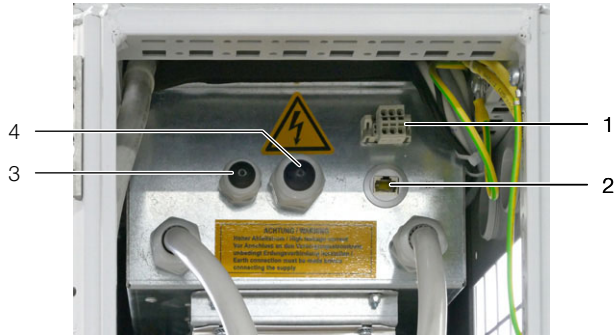

Fig. 24: Electronics box – rear
Inside the device, the cable is routed into the electronics box via the large cable gland in the centre (fig. 24, item 4). It is connected to the appropriately labelled terminals (PE, L1, L2, L3, N) in the electronics box.